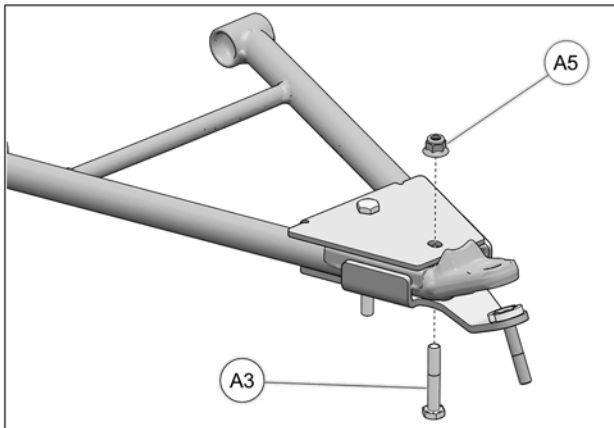

Fig. 17
8. Insert the M10x60 mm bolt (A3) through the bottom as shown below and secure the two parts together with the M10 nut (A5) provided. Tighten assembly to 50 N•m [37 lb•ft] of torque. See Fig. 17